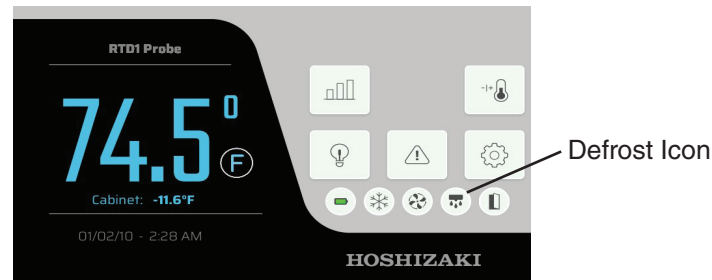

Fig. 27
4) Defrost engaged and defrost icon illuminated. See Fig. 27.